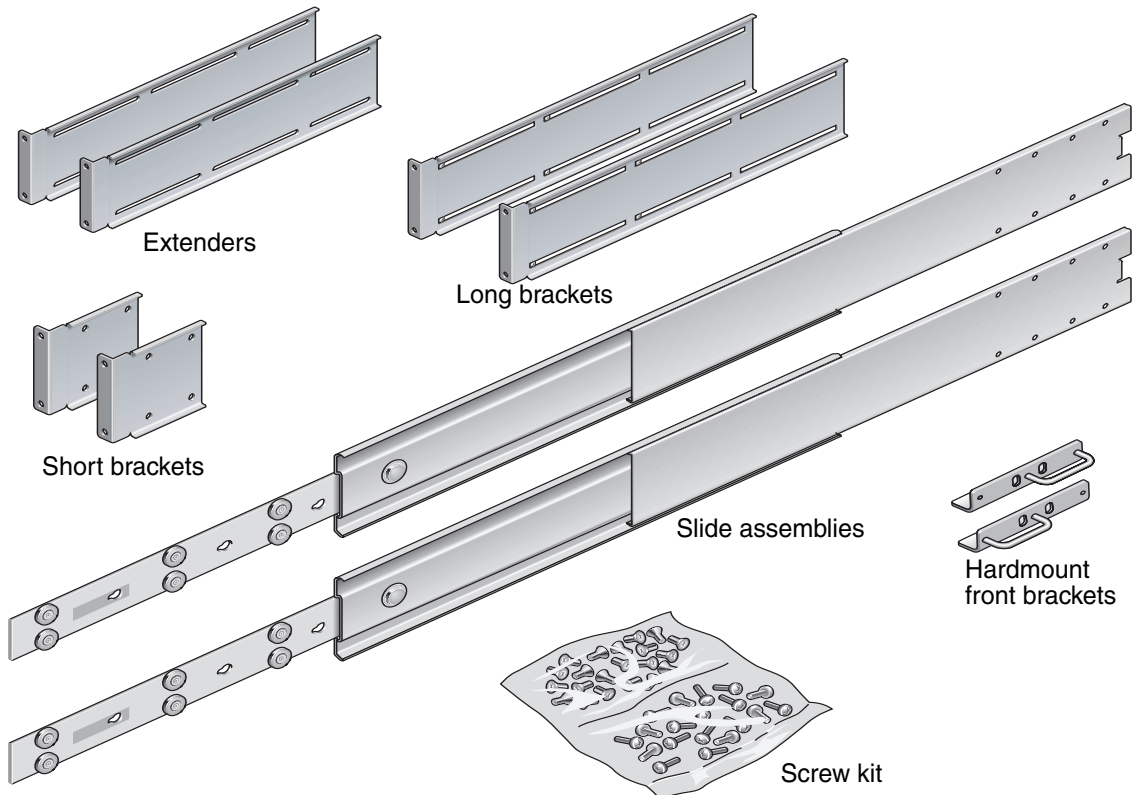

FIGURE 3-6 Contents of the Sliding Rail 19-Inch 4-Post Kit
1. **Get the hardmount brackets and M5 × 8 mm flathead Phillips screws from the rack kit** (FIGURE 3-6).
3. Get the Telco slide assemblies from the rack kit (FIGURE 3-6).
6. Get the short brackets and long brackets from the rackmount kit (FIGURE 3-6).